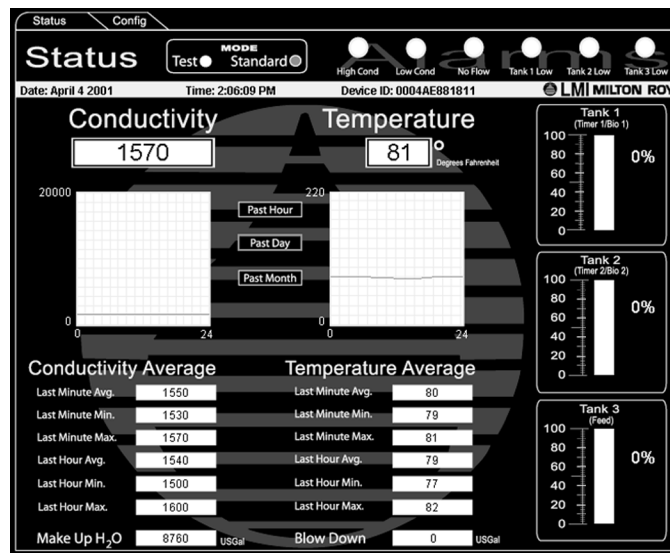

Figure 7-3: Controller Status Screen
4. When the connection with the Controller is established, you'll see the DC5500 Status screen shown in Figure 7-3 below.